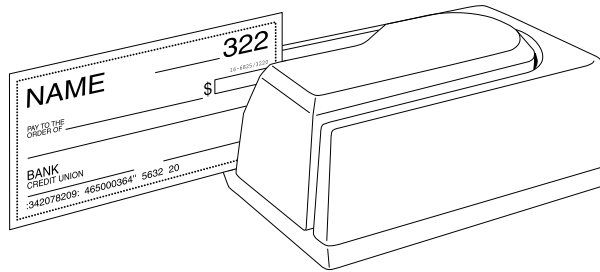

Figure 3-1. Check Orientation
1. Orient the check so the MICR line is down and the printed side faces the center on the MICR Plus as shown in Figure 3-1.